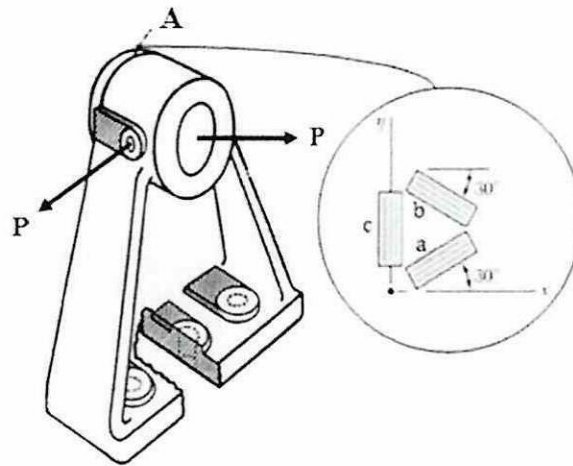

Figure Q1
- Q1** The bracket in **Figure Q1** is made of steel with $E_{\text{steel}} = 210\text{GPa}$, and $\nu_{\text{steel}} = 0.3$. Due to the given loadings, the gauges at point A which is located on the surface of the bracket give the following readings